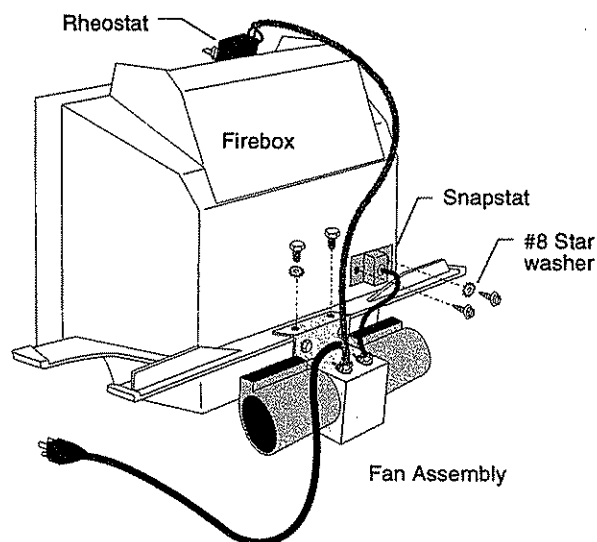

Figure 11a. The fan assembly and snapstat attach to the rear of the firebox / bottom plate assembly.
5. Attach the snapstat. Fig. 11a.